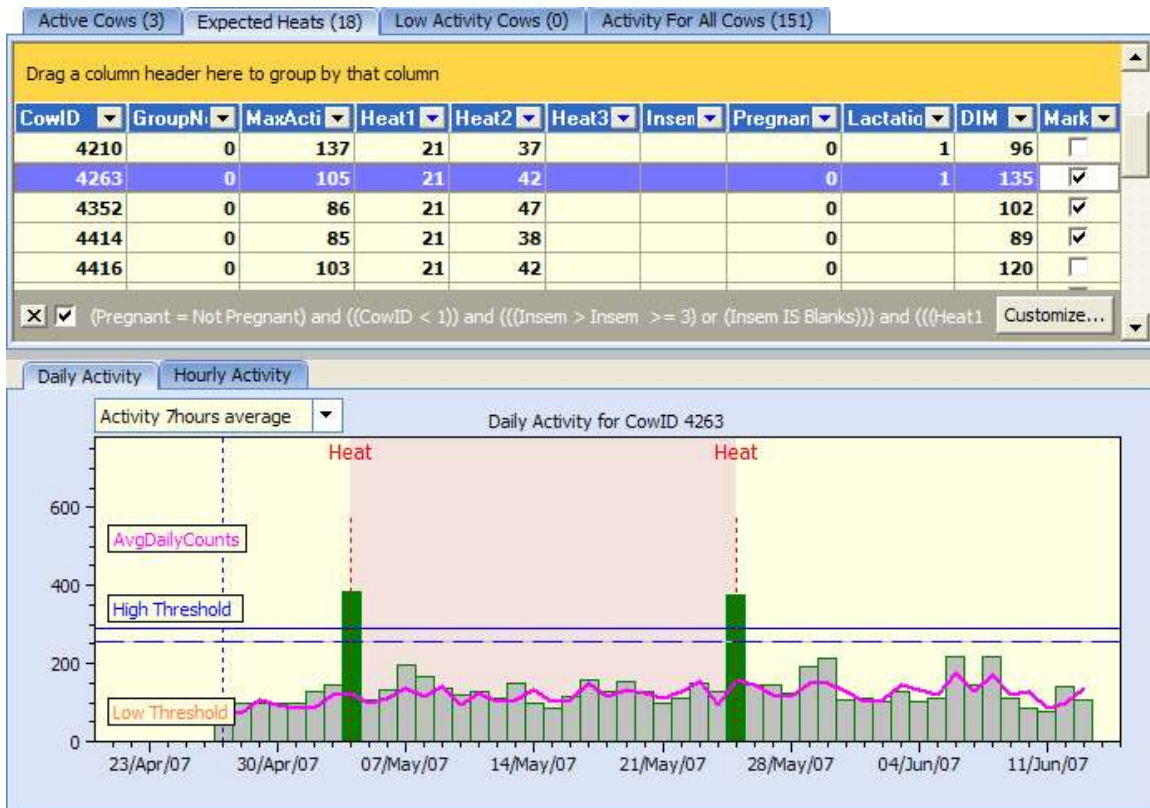

Figure 26 Mark Cows.
- Under the 'Mark' column to the far right of the grid on the top half of the screen displayed in Figure 26 below, check the box with the mouse corresponding to any CowID's you wish to enter a 'Heat Confirmation' for.